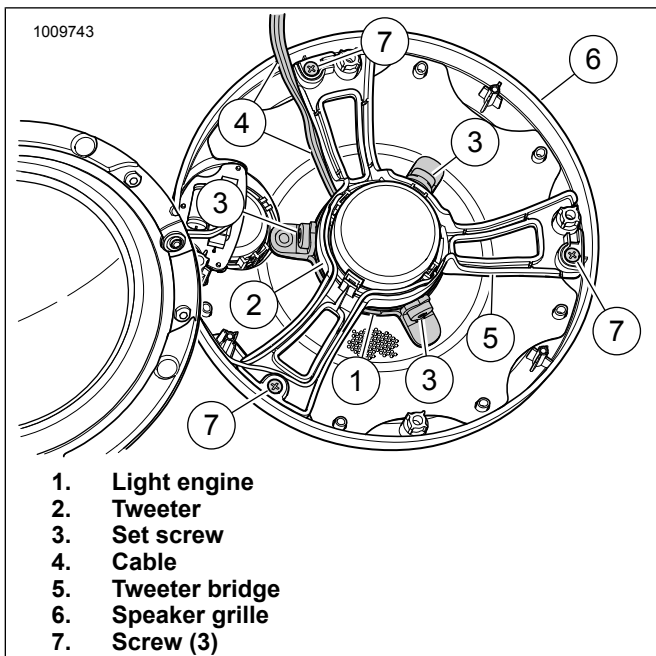

Figure 19. Speaker Grille, Tweeter Bridge and LED Light
4. See Figure 19. Remove the three screws that hold the tweeter bridge (5) to the speaker grille (6) and carefully separate the two. Use caution as not to damage or stress the tweeter speaker wires. Retain hardware for later use.
See Figure 19. Place light engine (1) on tweeter (2) as shown. Lightly compress light engine in place.